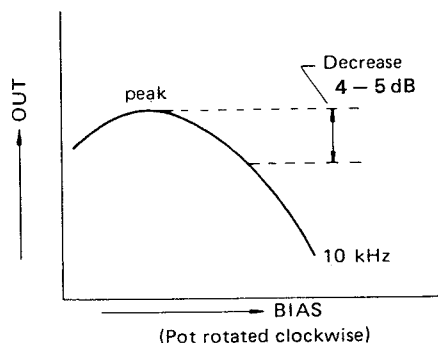

Fig. 7-34. Bias Level Adjustment
5. Begin the adjustments by turning trim pot R211, 100 k ohms completely counterclockwise. Next, turn the trim pot itself clockwise and the AF level meter will rise to give peak reading. Slowly continue the clockwise rotation until the reading on the level meter drops 4 – 5 dB from the peak reading as shown in Fig. 7-34.